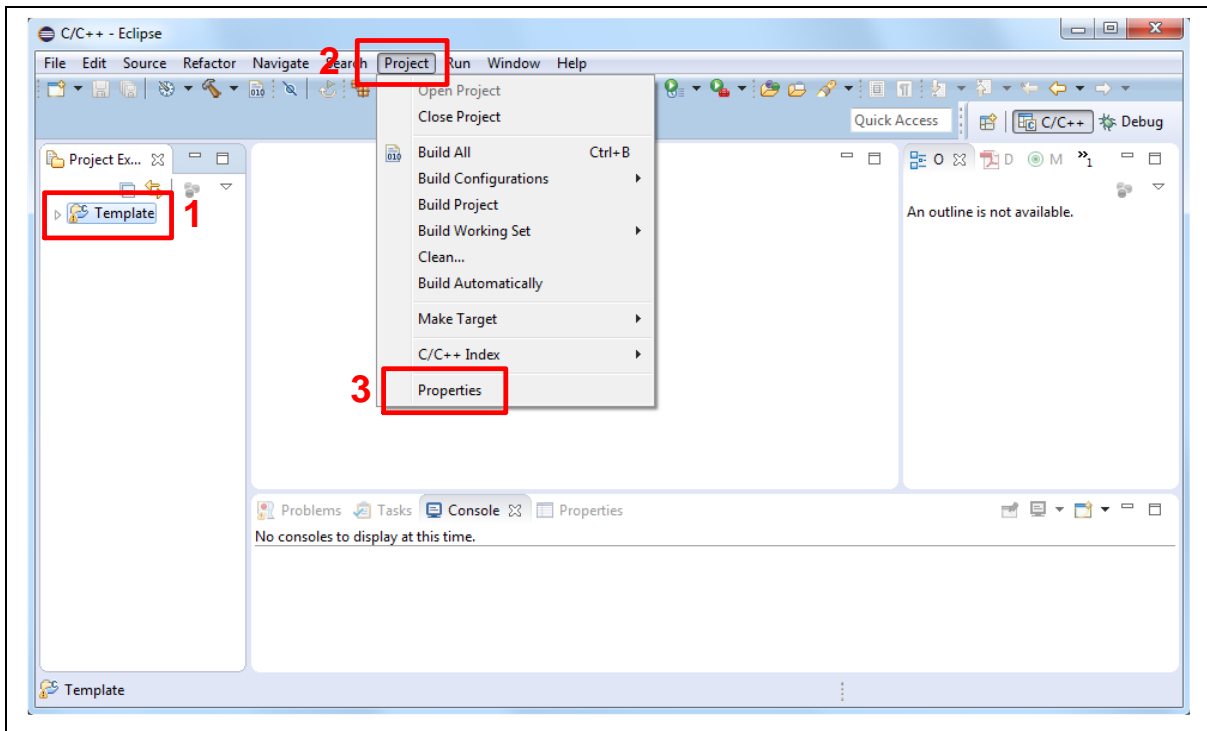
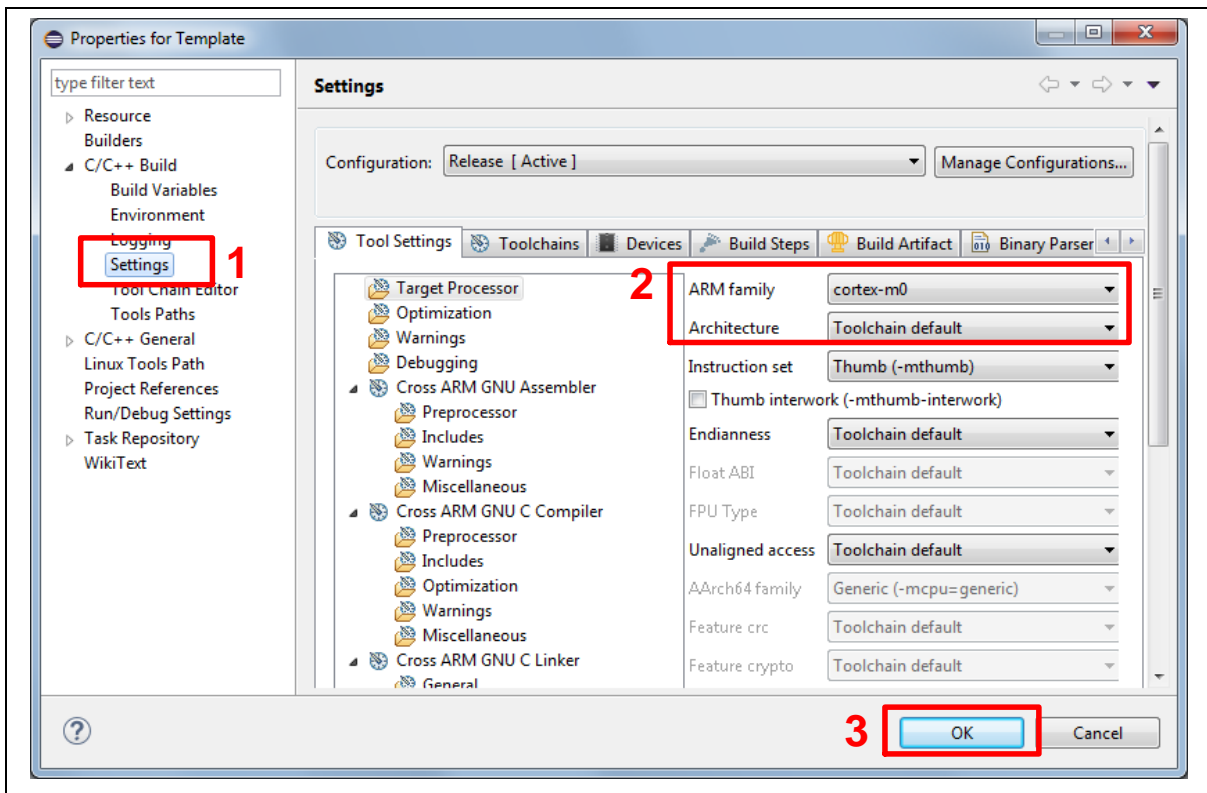

Figure 5-21 Open Project Properties Window
Figure 5-22 Project Properties Settings
3. Click the “Template” project and find the project properties as shown in Figure 5-21. Make sure the settings are the same as settings in Figure 5-22.